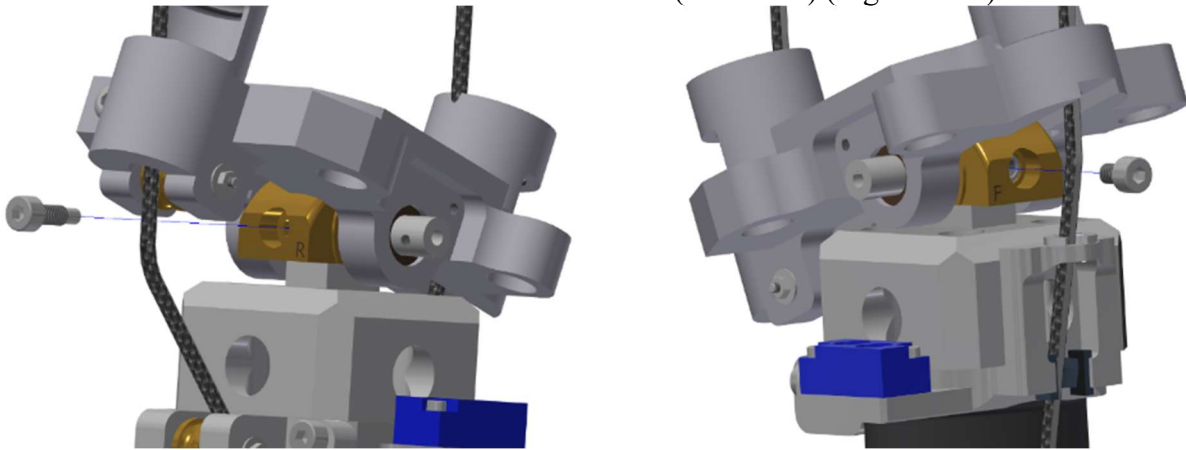

Figure 4-15. Remove the Occipital condyle screw (472-2016) and M4 X 0.7 X 6 LG. SHCS from the OC Flexion-Extension Cam (474-2327)
4.2.7 Remove the Occipital condyle screw (472-2016) and M4 X 0.7 X 6 LG. SHCS from the OC Flexion-Extension Cam (474-2327) (Figure 4-15).